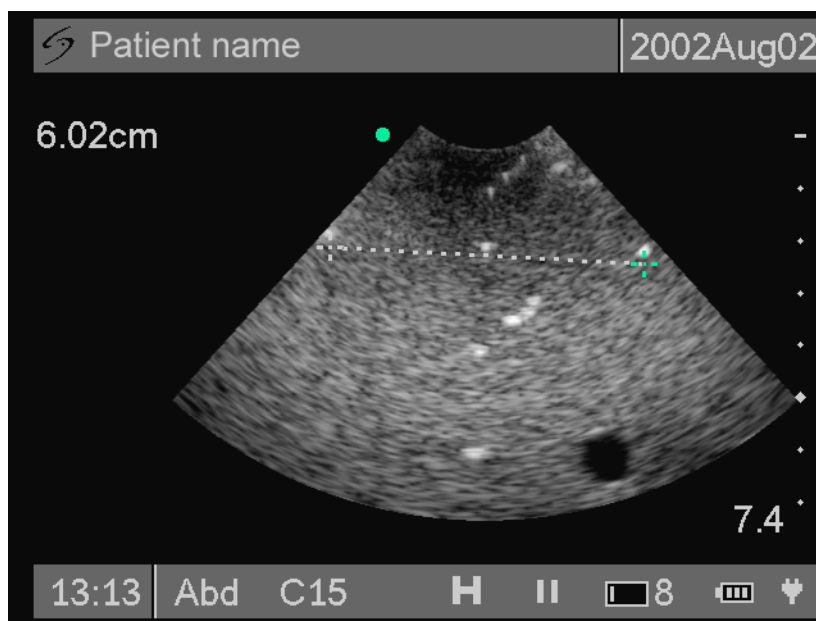

Figure 8.2 Lateral Measurement
- 2 Measure the distance, center to center, of two pins that are 4–10 cm apart horizontally. (Figure 8.2)